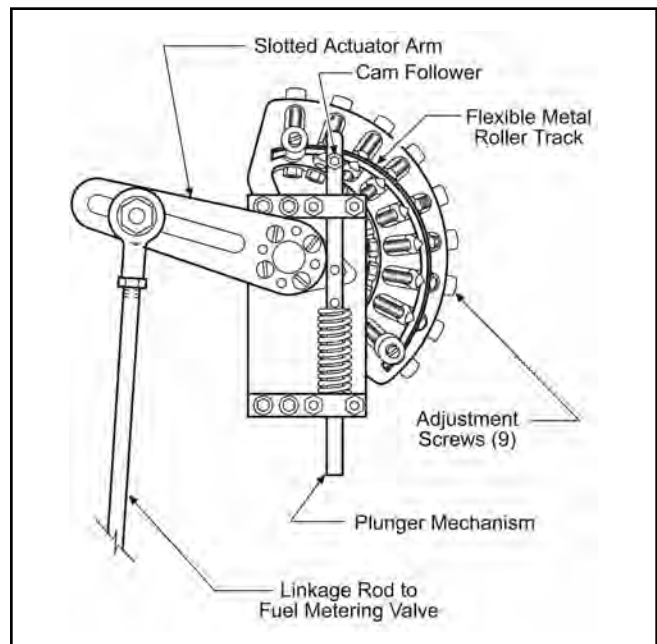

Figure 5-10
**DESCRIPTION** - See Figure 5-10. Characterized linkage provides the mechanical means to fine tune the fuel input (flow) to the burner in order to achieve maximum fuel efficiency and reduce harmful stack emissions.
**HOW IT WORKS** - There are nine (9) adjustment screws which control the contour of a flexible metal track upon which a roller and plunger mechanism travel. This mechanism in turn controls the linkage to the fuel valve, providing the precise amount of travel to dispense the right amount of fuel to the burner as it modulates to meet load demand. The objective is to shape the flexible metal track into what amounts to a “combustion efficiency profile.”